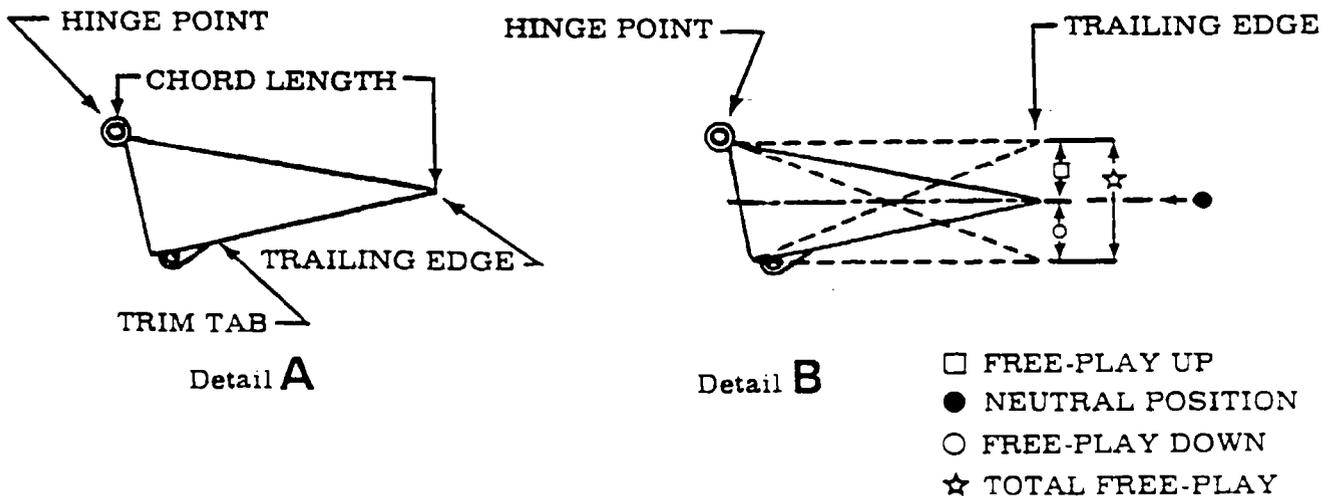

Figure 9-5. Elevator Trim Tab Free Play
### 9-11. TRIM TAB FREE-PLAY INSPECTION. (Refer to figure 9-5.)
1. Measure chord length at extreme inboard end of trim tab as shown in detail A, figure 9-5.
Measure free-play at same point on trim tab that chord length was measured. Total free-play must not exceed maximum allowable. Refer to detail B, figure 9-5.